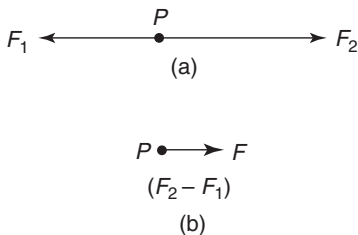

Figure 3.6
- (b) For forces acting in opposite directions along the same line of action, the resultant force is the arithmetic difference between the two forces. Forces of F_1 and F_2 acting at point P as shown in Figure 3.6(a) have exactly the same effect on point P as force F shown in Figure 3.6(b), where $F = F_2 - F_1$ and acts in the direction of F_2 , since F_2 is greater than F_1 .